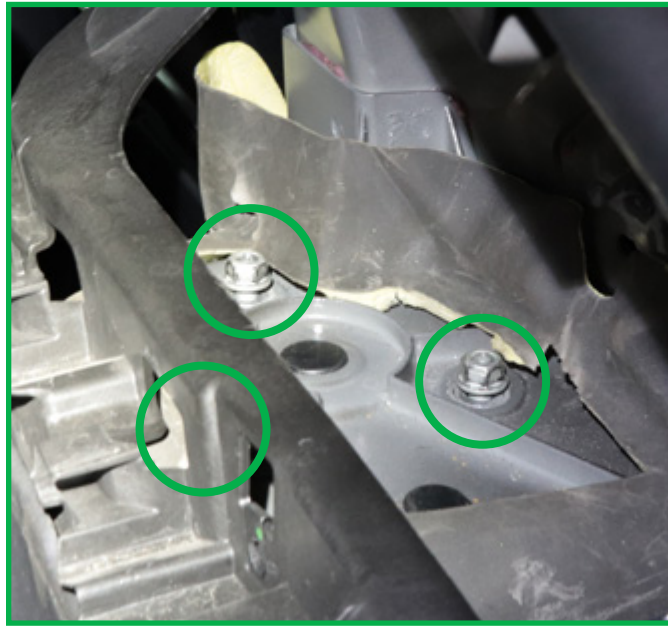

FIGURE 11
2. Loosely install the top mount nuts to hold the strut in position. (Figure 11)